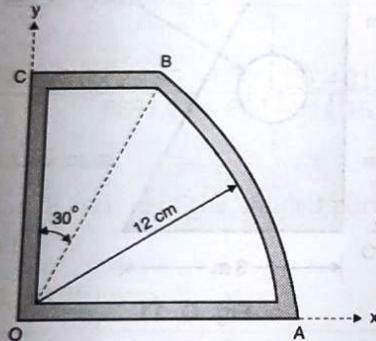

Fig. Q. 2
- 2 A uniform rod bent into a configuration OABC as shown in Fig. Q. 2. Find position of centre of gravity of this bent with respect to 'O'.